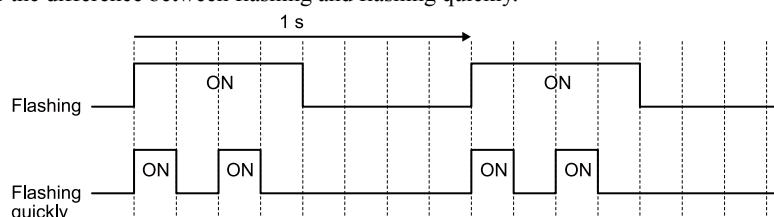

Figure 3.6 LED Flashing Statuses
*1 Refer to Figure 3.6 for the difference between flashing and flashing quickly.